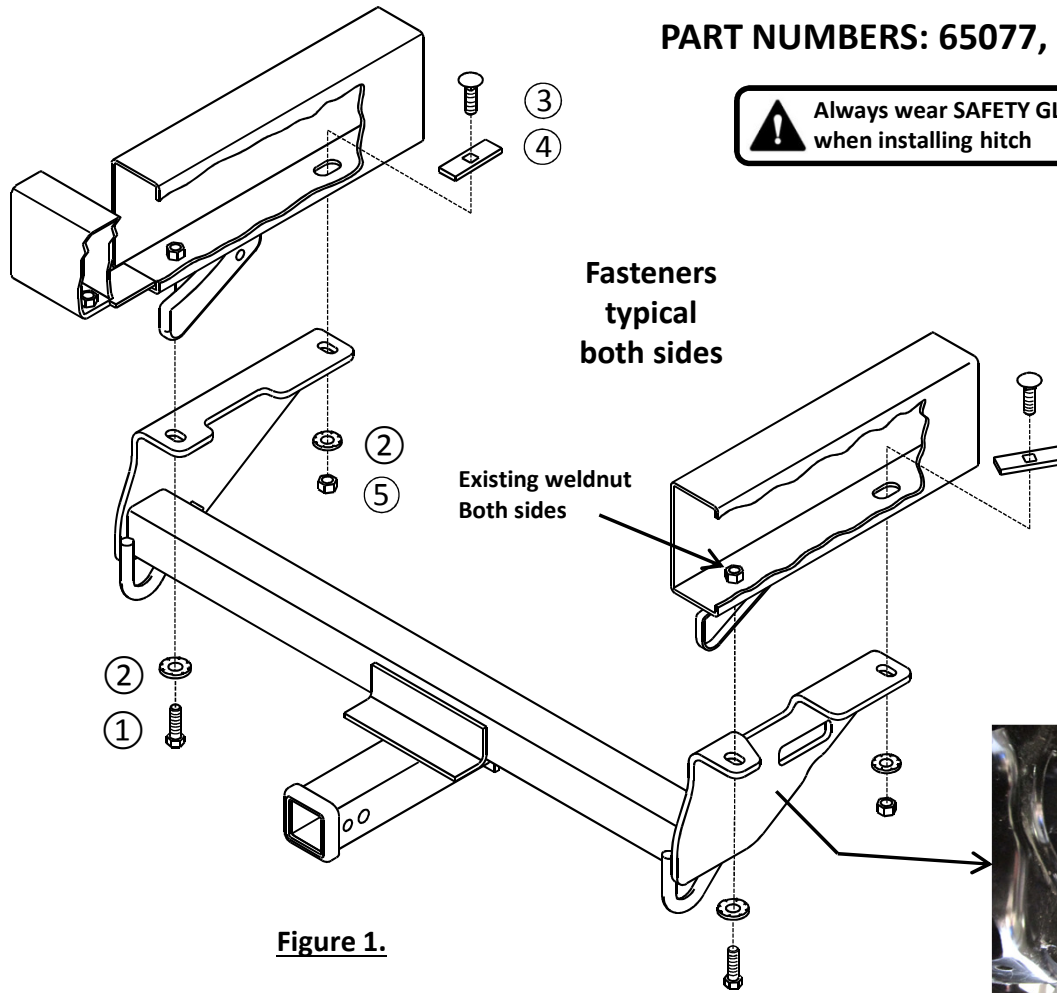

Figure 1.
11. **Install Hitch** – raise hitch into position, installing the driver's side bracket flange through the opening between vehicle frame bracket and bottom of frame first, then raise the passenger's side into position. Be careful to not push carriage bolts back into the frame. **NOTE:** It may be necessary to clean debris from existing weldnuts in frame using a wire brush or compressed air. See Figure 1. Loosely install the M12 bolts with conical washers into the existing weldnuts in bottom of frame, both sides. Loosely install the 1/2 -13 hex nuts and conical washers onto the carriage bolts.